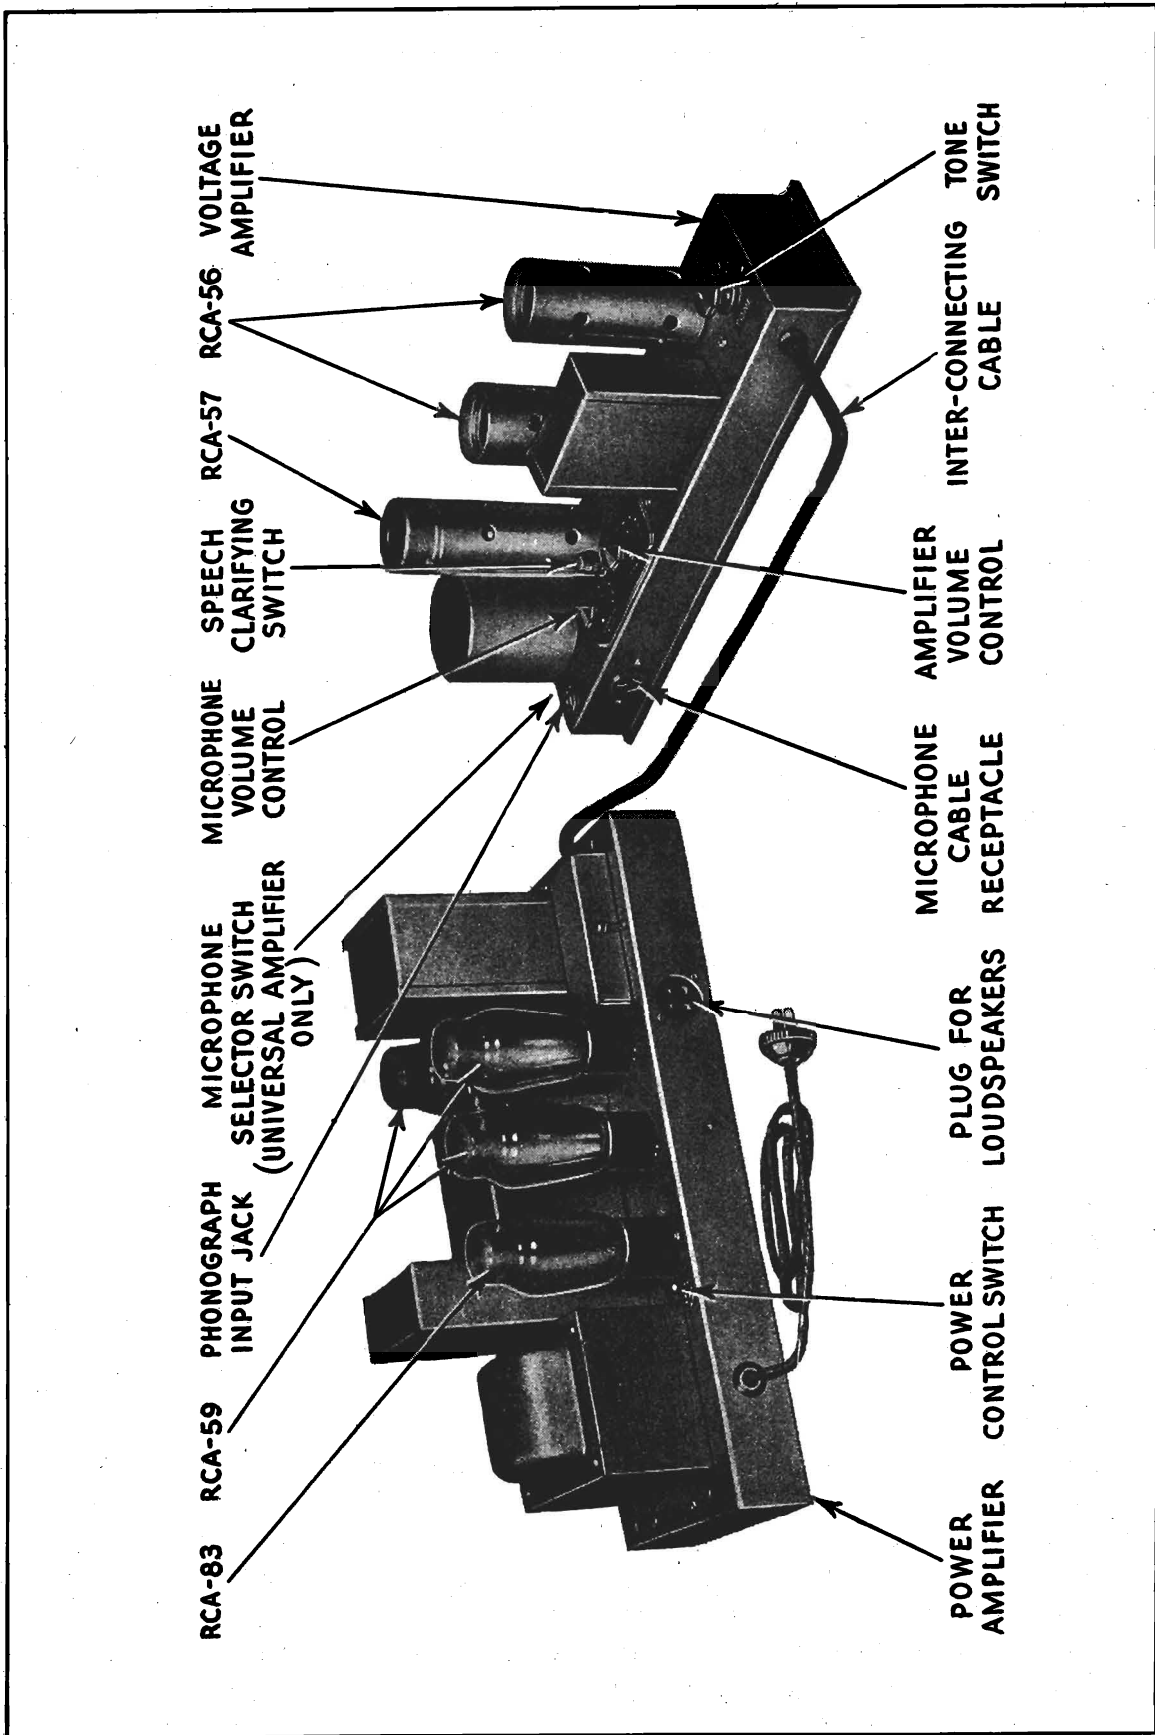

Figure 2—View of Voltage and Power Amplifiers Showing Parts
All the controls except the power control switch are mounted on the voltage amplifier base and are easily accessible to the operator. The controls consist of the power control switch mounted on the power amplifier base, the microphone volume control, amplifier volume control, the speech clarifying switch and the tone switch. Figure 2 shows the location of the various controls.
- (a) That all Radiotrons are in their proper sockets and pressed down firmly. Never apply power to the instrument unless all Radiotrons are in place. See Figure 2.
1. Insert the Radiotrons in the sockets as shown in Figure 2.
- (a) That all Radiotrons are in their proper sockets and pressed down firmly. Never apply power to the instruments unless all Radiotrons are in place. Figure 2 shows the proper Radiotron locations.
After the equipment has been properly located and connected, it may be operated in the following manner. (Refer to Figure 2.) This operating procedure applies to both the PG-62 equipment and the Universal Amplifier.